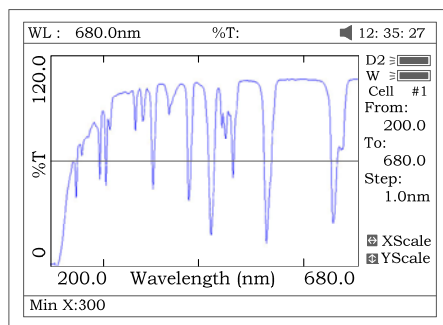
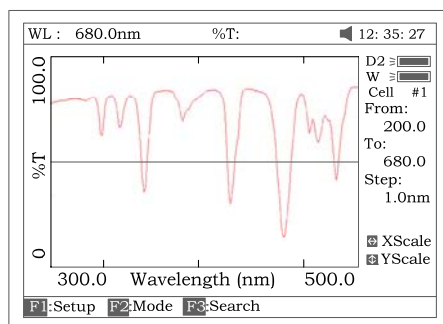

Fig47
Fig 48
- If you want to change the scale, press [<] or [>] to change “x” scale (Fig 47), input upper limit and lower limit by pressing the numeric keypad. To change “y” scale press [^] or [v]. After these inputs the instrument will redraw the curve (Fig 48).
Press [**SAVE**] to save the curve. Note: Load/Save requires the first scan display page Fig 48. Press **ESC** if in Search to return to the required page